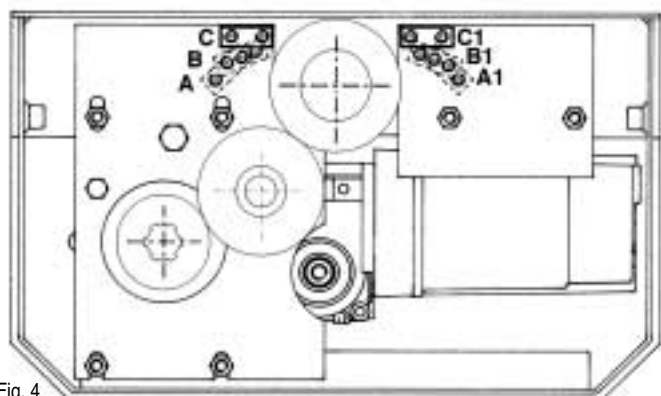

Fig. 4
**MAGIC 180° version (fig 4):** installing this version, a gate can be rotated through 180° if the drive shaft is coaxially aligned with the hinge centre, or through 150° with the drive shaft offset from the centre of rotation by up to 4.5 cm.